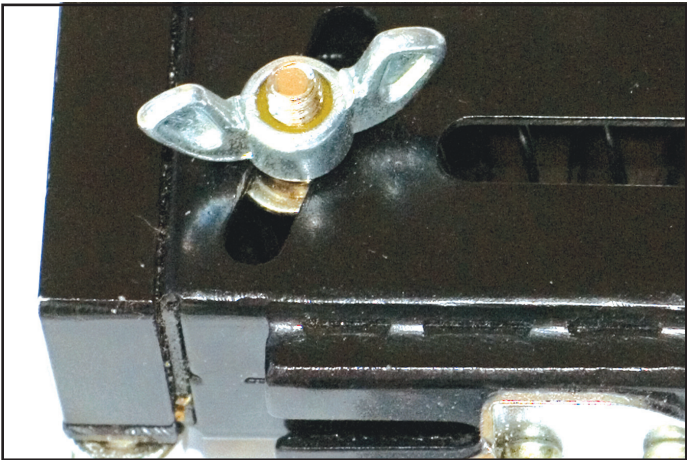

Figure 3
5. Depth Adjustment loosen wing screw to adjust up for "less deep" adjustment or down for "deeper" depth adjustment. See **Figure 3**.
- Fine tune screw depth by first unplugging screwgun from electrical supply, then adjusting depth control as shown in **Figure 3**.